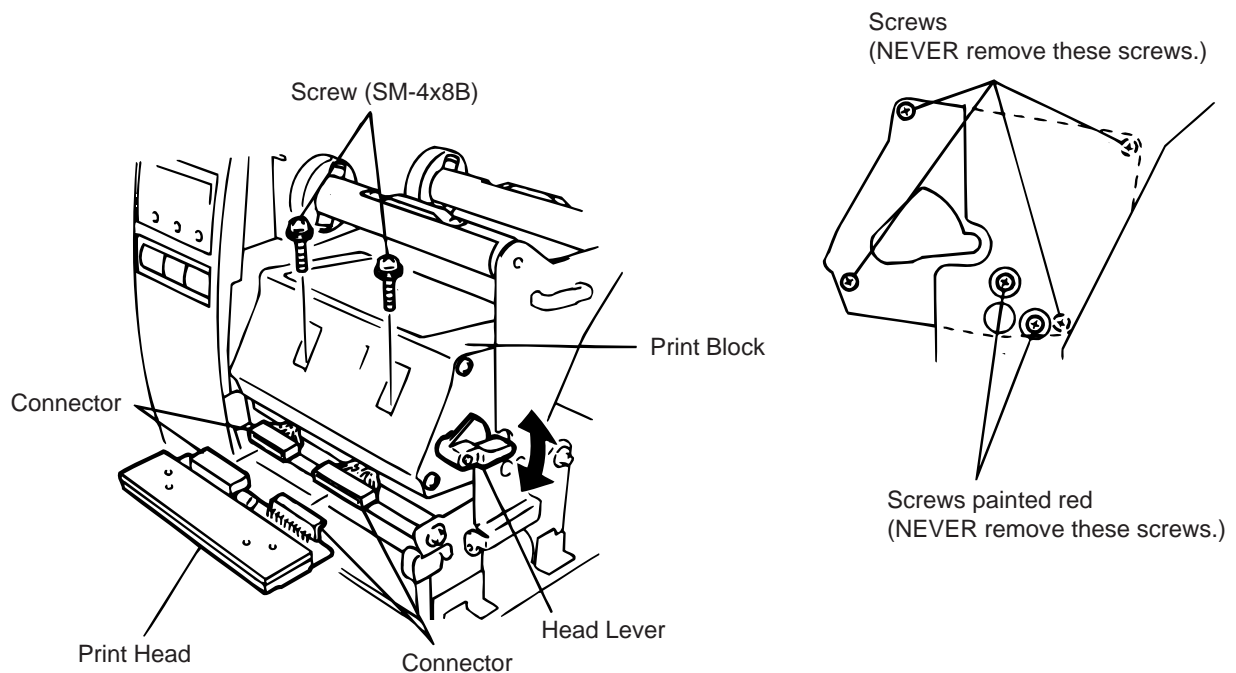

Fig. 2-13
2. NEVER remove the two screws painted red on the side of the print block. (See Fig. 2-13)
3. NEVER remove the four screws on the side of the print block. (See Fig. 2-13)